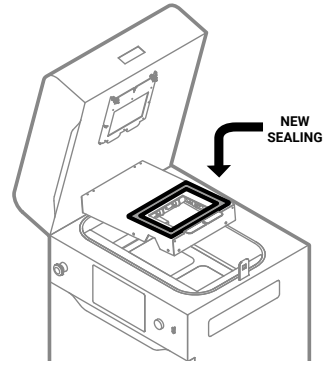

Fig. 13.103 Apply the new reflector sealing.
14. Remove the plastic paper and place the sealing carefully around the hole (fig. 13.103). Do not stretch the seal when gluing!